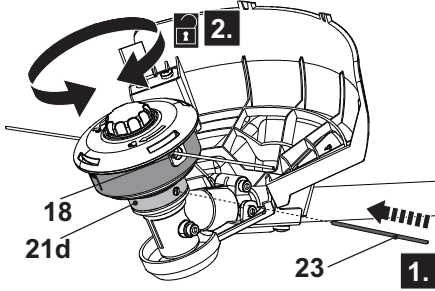

Fig. 28
1. Turn the product upside down to access the trimmer head (18).
2. Rotate the trimmer head (18) until the hole on the backing flange (21d) is aligned with the notch in the gear head.
3. Insert the spindle lock rod (24) into the hole to lock the spindle (21e) (Fig. 28, step 1).
4. Loosen the trimmer head (18) clockwise (Fig. 28, step 2) by hand and remove it from the spindle (21e).